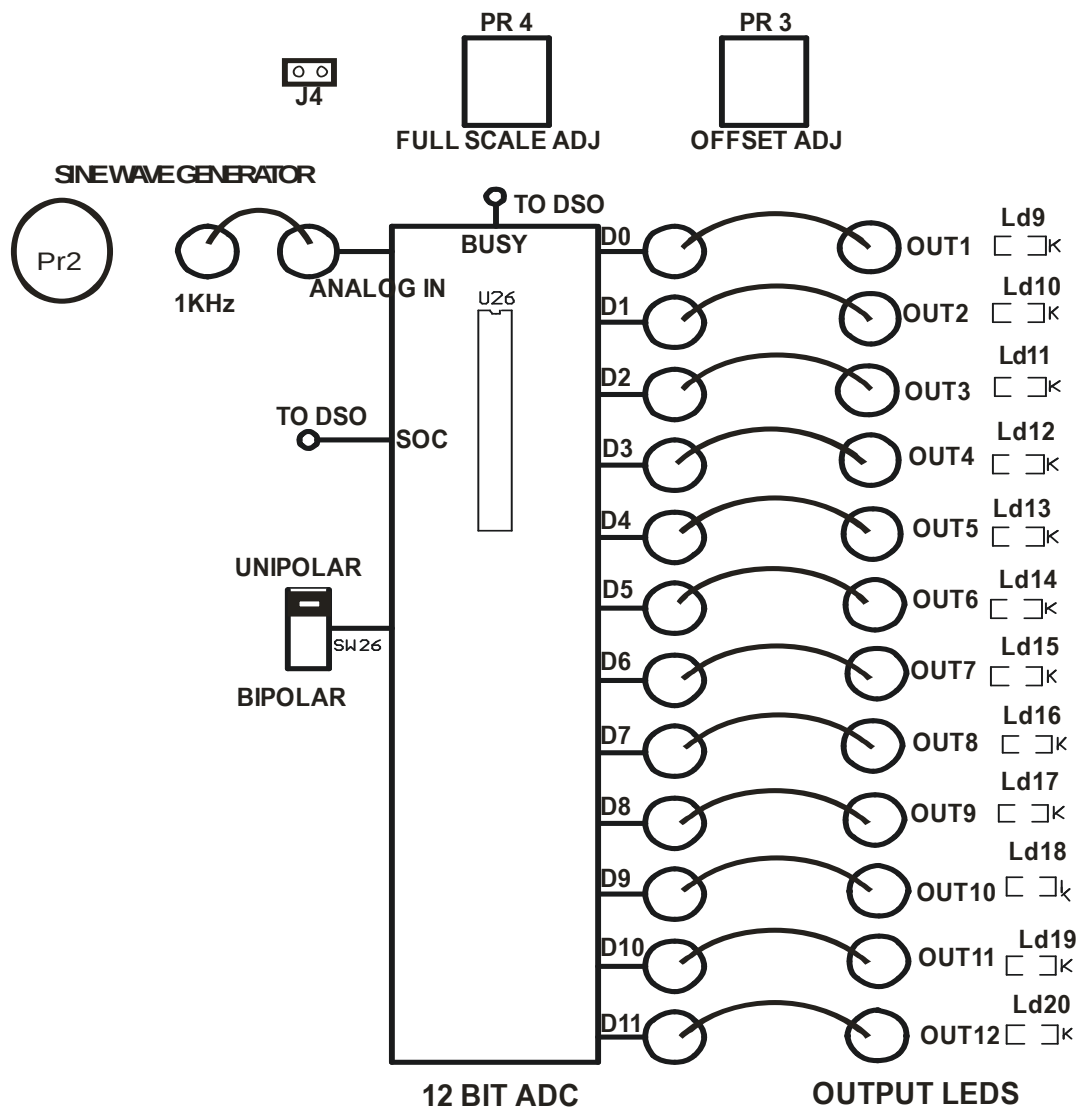

FIGURE-6.1
1. Make the connection as shown in FIGURE-6.1.